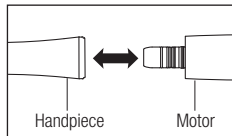

Fig. 5
- 1) Insert the handpiece directly into the motor (Fig. 5).
Hold the motor and the handpiece, then pull apart. (Fig. 5)